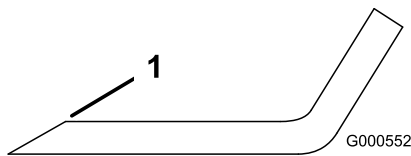

Figure 53
- Use a file to sharpen the cutting edge at both ends of the blade (Figure 53).
Note: If the blade is not balanced, file some metal off the end of the sail area only (Figure 53).